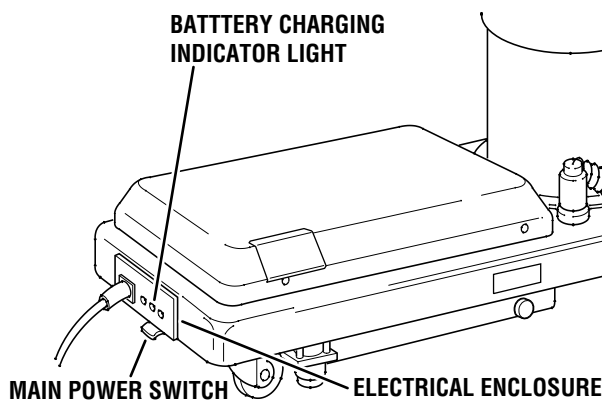
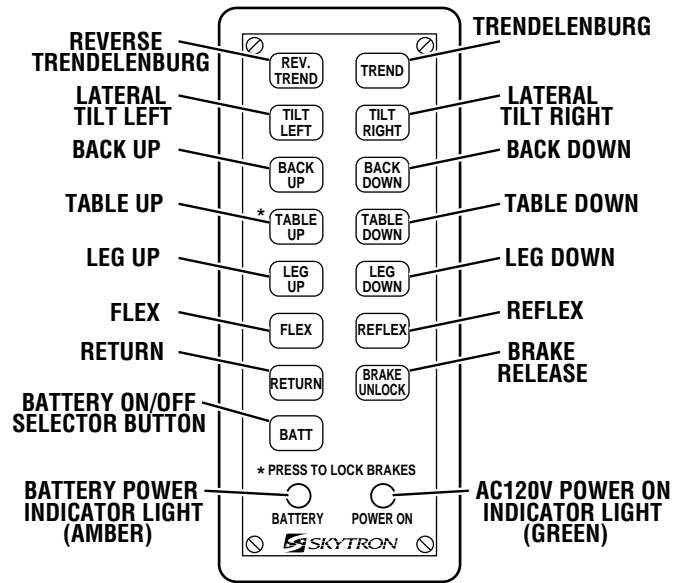

Figure 2-1. Main Power Switch
Figure 2-2. Pendant Control
b. Activate the POWER SWITCH located on the electrical panel. See figure 2-1. The green AC120V, Power-On indicator light located in the lower right corner of the pendant control will illuminate. See figure 2-2.
a. Make sure the green, AC 120V, Power-On indicator light, on the hand-held pendant control, is OFF. See figure 2-2. If the indicator light is ON, depress the main power ON/OFF switch, located on the electrical enclosure to turn AC120V operation OFF.